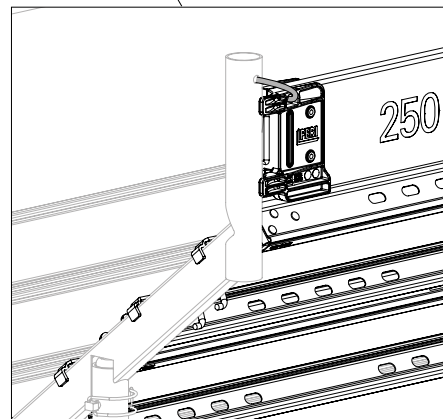

Fig. D4.03a
7. Insert Toe Board UPF (**56**) into Protection Roof Connector EPC and secure with suitable means. (Fig. D4.03a)